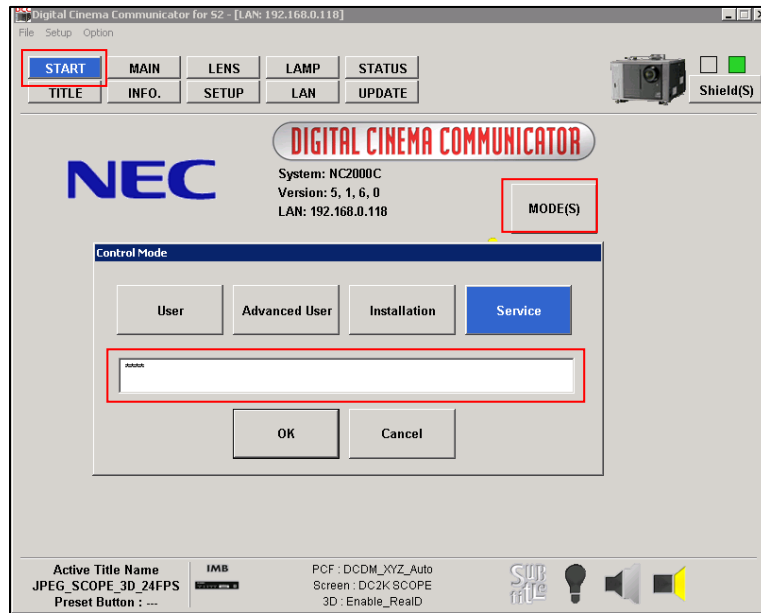

Figure 20: Service Mode on NEC Digital Cinema Communicator
3. Select [Start] → [Mode] → [Service] and enter the Service password to activate service mode operation (as shown in **Figure 20**).